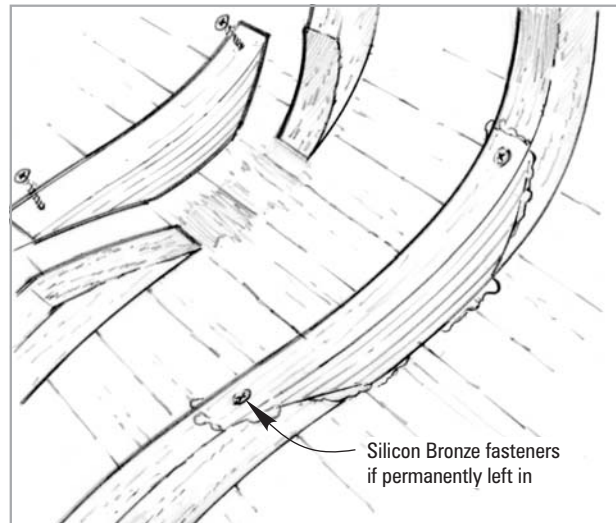

Figure 4-5 Bond in a new laminated or solid section trimmed to fill the void in the existing frame.
4. Install the new frame section (*Figure 4-5*). Wet out all contact surfaces of the new and existing frame ends. Apply a liberal amount of thickened epoxy/406 mixture to one side of each contact area.